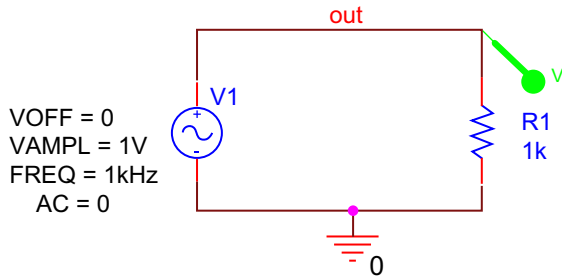

FIGURE 7.9
1. Draw the circuit in Figure 7.9, which consists of a VSIN source from the source library, connected to a load resistor R1.